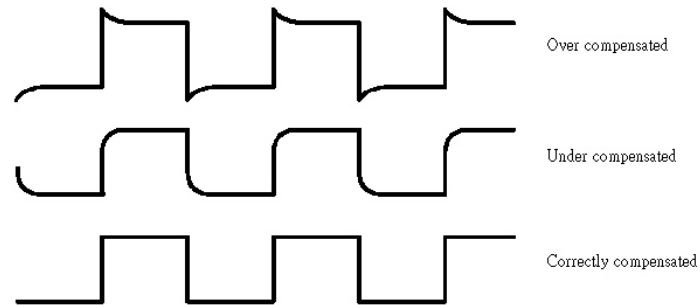

Figure 5-2 Typical Compensation Waveform
7. Observe the displayed waveform and compare them with the waveforms shown in figure 5-2. If either probe needs to be adjusted, proceed the step 8. If either probe does not need to be adjusted, proceed the "Function Check".